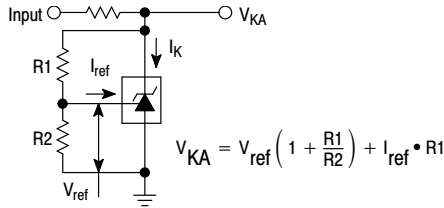

Figure 2. Test Circuit for $V_{KA} > V_{ref}$
7. The dynamic impedance Z_{KA} is defined as $|Z_{KA}| = \frac{\Delta V_{KA}}{\Delta I_K}$. When the device is programmed with two external resistors, R1 and R2, (refer to Figure 2) the total dynamic impedance of the circuit is defined as: $|Z_{KA}'| \approx |Z_{KA}| \left(1 + \frac{R1}{R2} \right)$